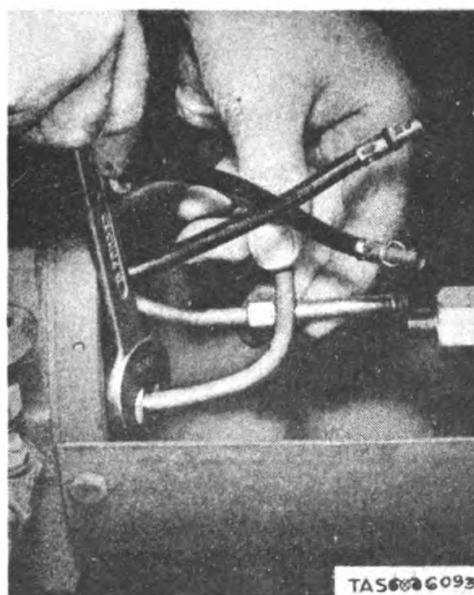

Fig. 93. Removing Inner Discharge Tubing by Loosening Adapter Nuts at Either End.
3. Remove inner discharge tubing by loosening adapter nuts at either end. (See fig. 93.)